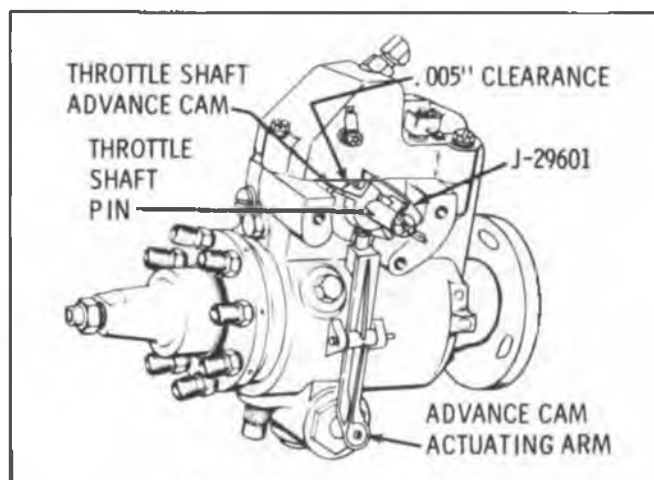

Fig. 2-10 Face Cam Tool, J-29601
6. Install tool J-2960I over the throttle shaft with slots of tool engaging pin. Put the spring clip over the throttle shaft advance cam and tighten the wing nut. Without loosening the wingnut, pull the tool off the shaft. (This provides the proper alignment on reassembly.) (Fig. 2-10.)